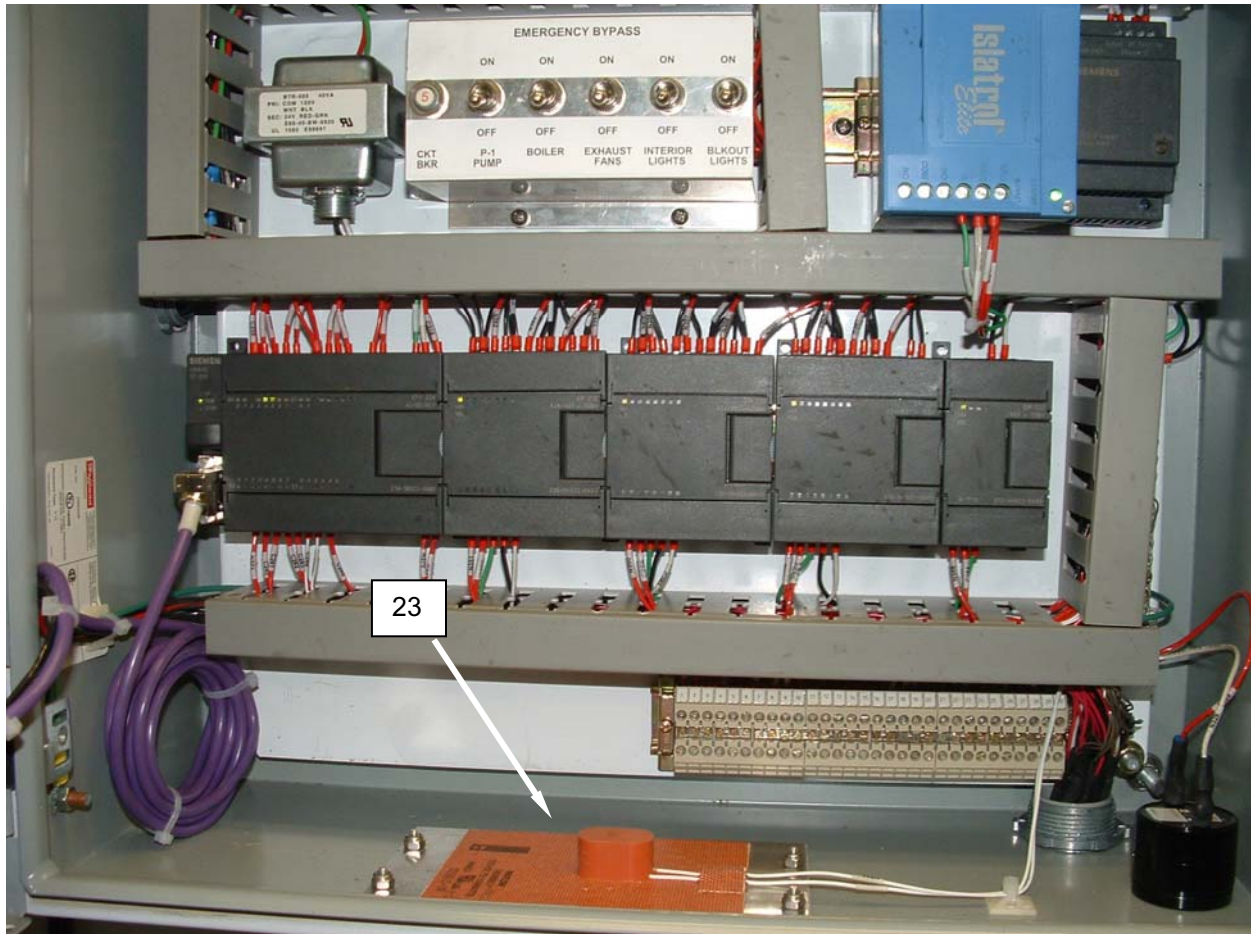

Figure 16. Replace the Electric Box Heater.
3. Tag and disconnect wiring from heater (**Figure 16, Item 23**).
4. Remove fasteners retaining heater (**Figure 16, Item 23**), and remove heater.
5. Install replacement heater (**Figure 16, Item 23**) and retain with fasteners.
6. Connect wiring to replacement heater (**Figure 16, Item 23**) as tagged.